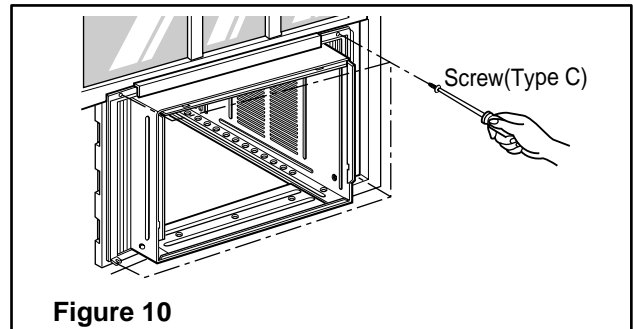

Figure 10
6. Attach each Frame curtain the window sash by using screws (Type C). (See Fig. 10)